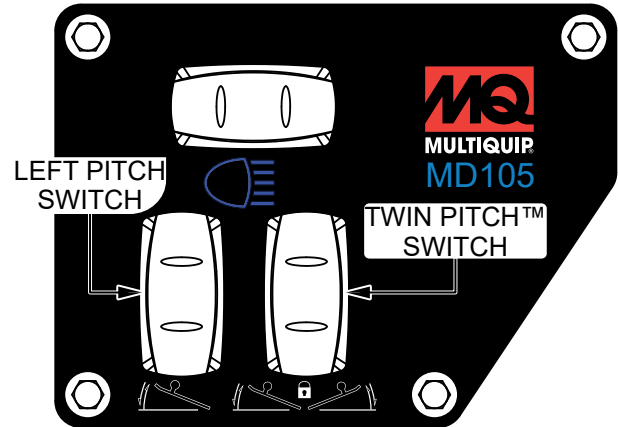

Figure 28. Blade Pitch Switches
1. Press **UP** or **DOWN** on the **Twin Pitch™ switch** (Figure 28) to change pitch on both rotors simultaneously (but non-synchronously).
2. Press **UP** or **DOWN** on the **Left Pitch switch** (Figure 28) to change pitch on the left rotor only. The right rotor pitch will remain constant.